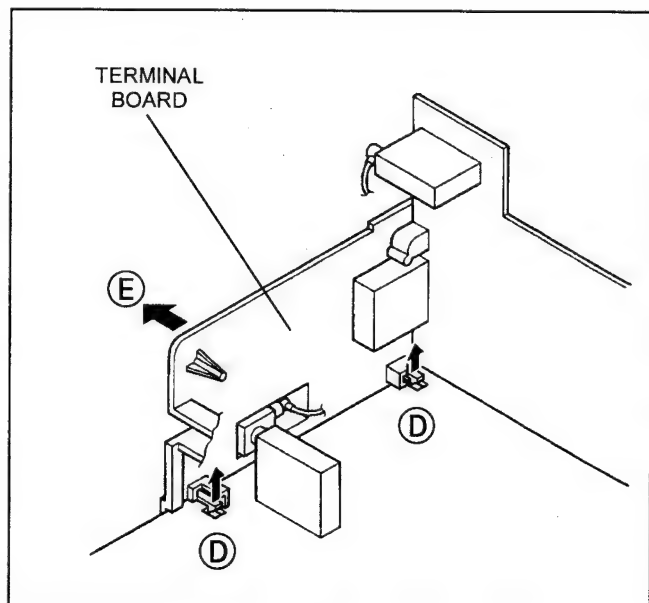

Fig.1
2. As shown in Fig.1, after removing the claw marked **(D)** in the direction of arrow mark.
3. When you pull out the TERMINAL BOARD in the direction of arrow marked **(E)** as shown in Fig.1, it can be removed.